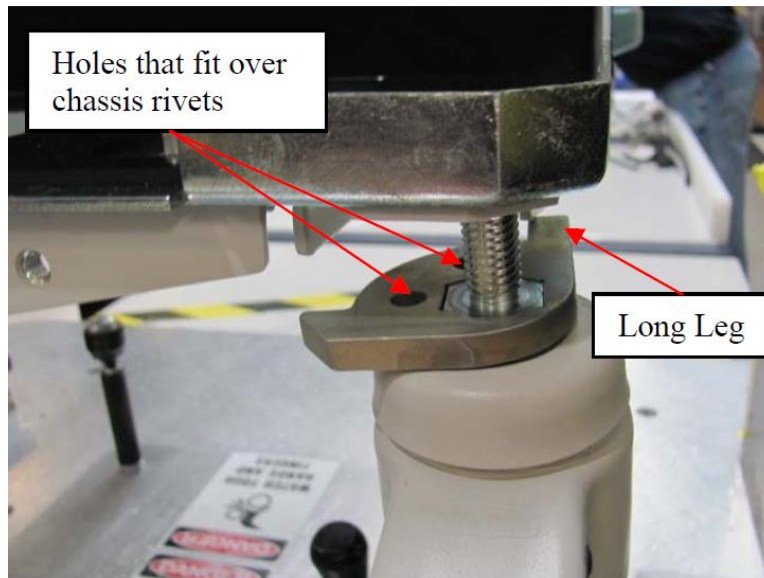

Figure 2. Spacer orientation on Caster
5. Place the metal spacer onto the stem of the caster lining up the hex on the caster with the hex on the metal spacer. **THE LONG LEG OF THE METAL SPACER GOES ON THE SIDE OF THE ROVER AS SHOWN IN FIGURE 2.** Place the stem of the caster through the hole in the chassis shown in Figure 2. There are 2 holes in the spacer that fit over rivets in the chassis to aid in properly positioning the spacer.